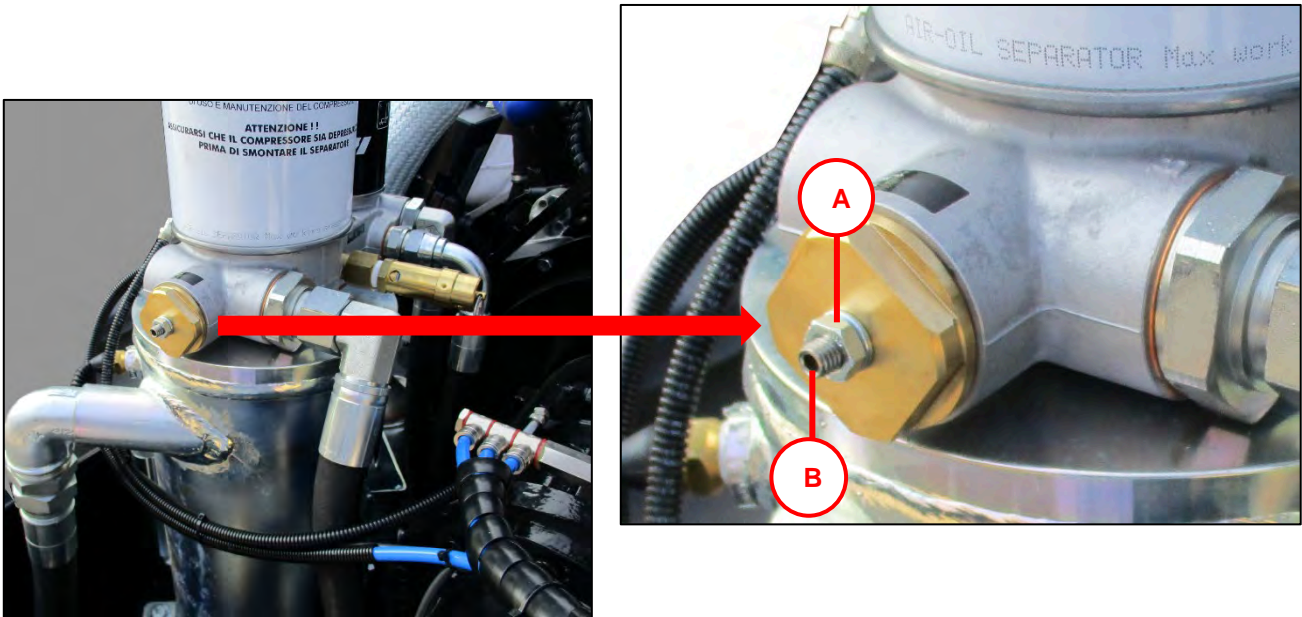

Figure 11.3-1 Adjusting minimum pressure pneumatic circuit
5. Unscrew, with 10 mm wrench, nut (Letter A Figure 11.3-1) located in the vicinity of the exhaust cleaner.
6. If you want to increase the maximum pressure must tighten the Allen screw (Figure 11.3-1 Letter B) with Allen key 3 mm;
7. If you want to reduce the pressure loosen the Allen screw (Figure 11.3-1 Letter B) with Allen key 3 mm;
8. Once the adjustment screw, with a 10 mm wrench, nut (Letter A Figure 11.3-1) and turn off the service valves;